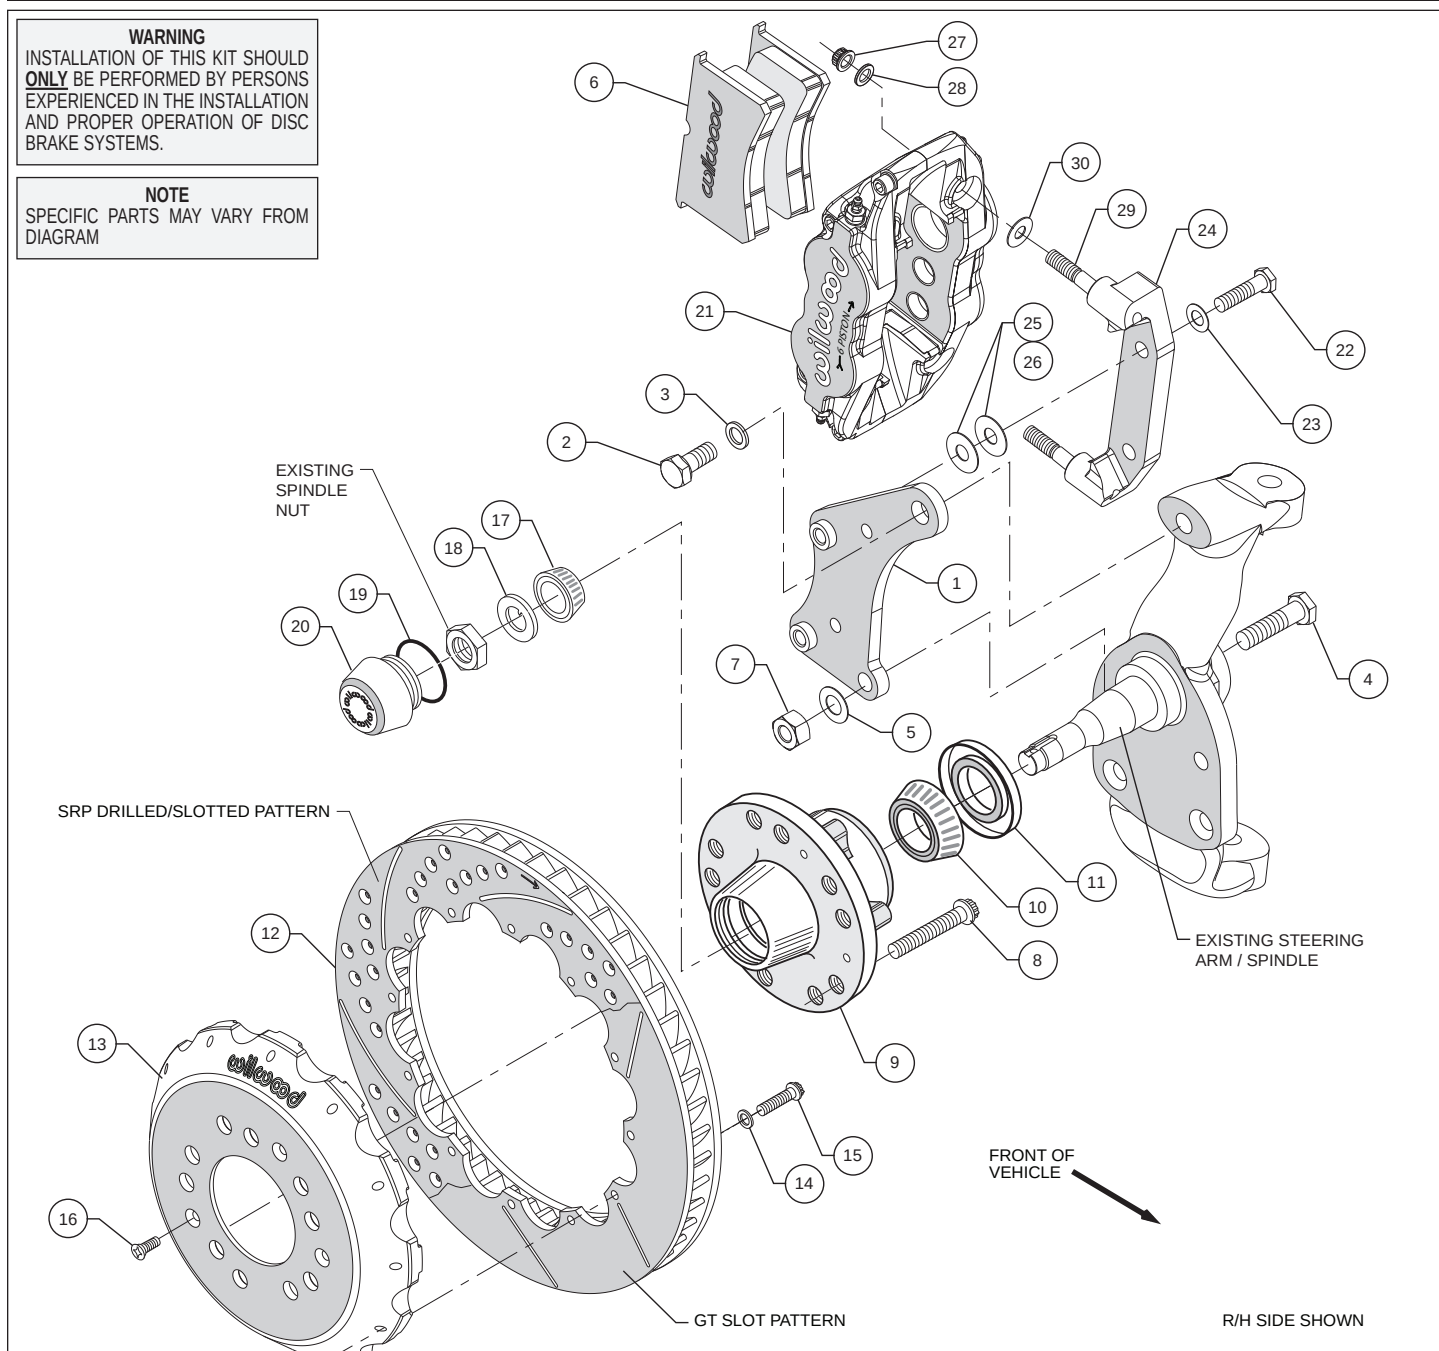

Figure 1. Typical Installation Configuration
- Mount the radial mount caliper bracket (24) to the first "flat" caliper mounting bracket (1) from the far side by sliding bolt (22) through washer (23). Place two .030 thick flat washers (26) between the two brackets (1 and 24) before sliding the mounting bolts (22) all the way into the first caliper mounting bracket (1). Finger tight only.
•**NOTE:** This kit contains distinct right and left hand calipers that must be mounted in a specific direction, as described below. Lubricate caliper mounting studs (29) and nuts (27) with lightweight oil. Install one shim (30) over each stud (29) on the radial mount bracket (24). Slide the caliper (21) in place over the studs and rotors and install the washer (28) and lock nut (27) to hold the caliper in place, Figure 1. Ensure that the caliper is mounted so that the largest pistons are at the rotor exit end of the caliper, in relation to the direction of rotor rotation. Snug the lock nuts (27) and check that the rotor (12) is centered in the caliper (21). Add or subtract .030" shims (26), or add additional .015" shims (25), as necessary between the radial mount bracket (24) and the flat bracket (1) to center the caliper. Finger tighten and recheck alignment. Use as many shim washers (combination of 25 and 26) as necessary to achieve the correct alignment. Apply red *Loctite*® 271 to bolt threads (22) and torque to 42 ft-lb.